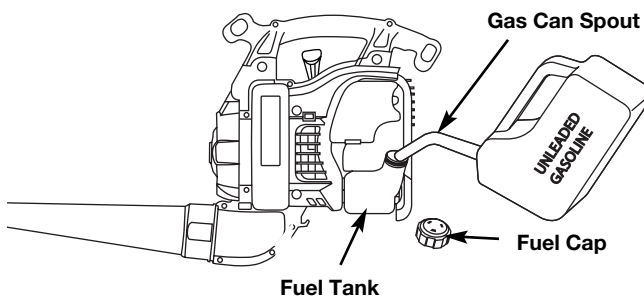

Fig. 12
1. Remove the fuel cap (Fig. 12).
2. Place the gas container's spout into the fill hole on the fuel tank (Fig. 12) and fill the tank.